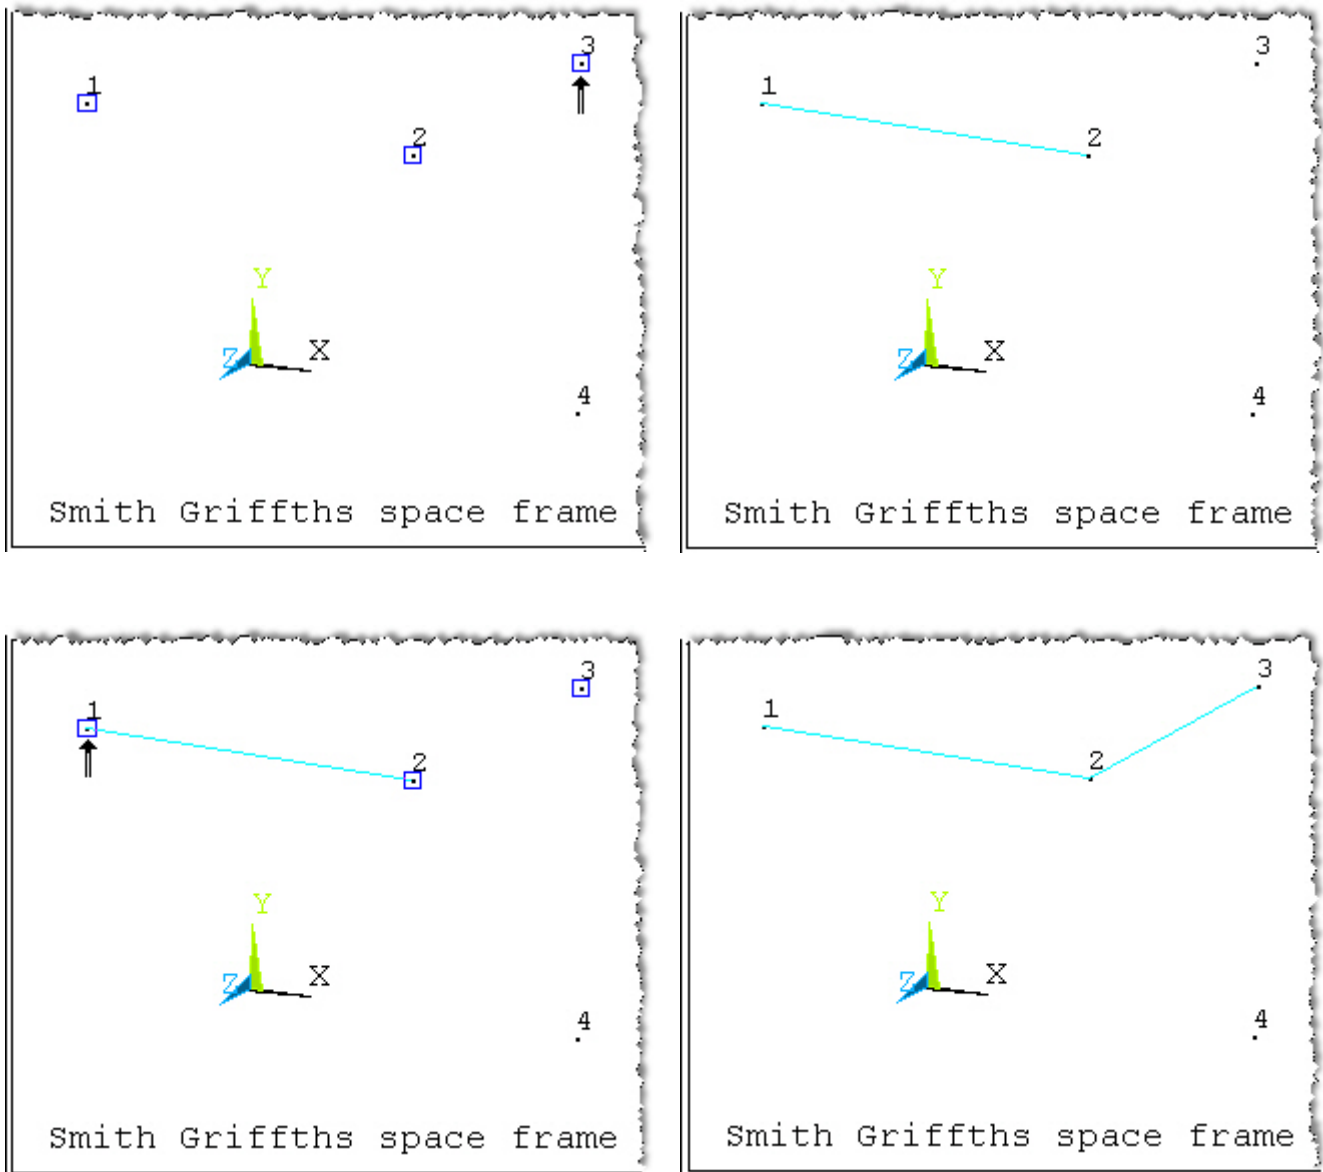

Figure 14 Define two elements for first real constants set
5. In the graphics window, seen in Figure 14, define the first element by picking **node 1** (a square symbol appears) then **node 2**, then orientation **node 3**, **OK**, and the next element number (1) appears in the graphics area.
6. Repeat this process for the last member sharing the current real constants set: **Thru Nodes**, pick **nodes 2, 3**, and **1** for element 2 (bottom of Figure 14).